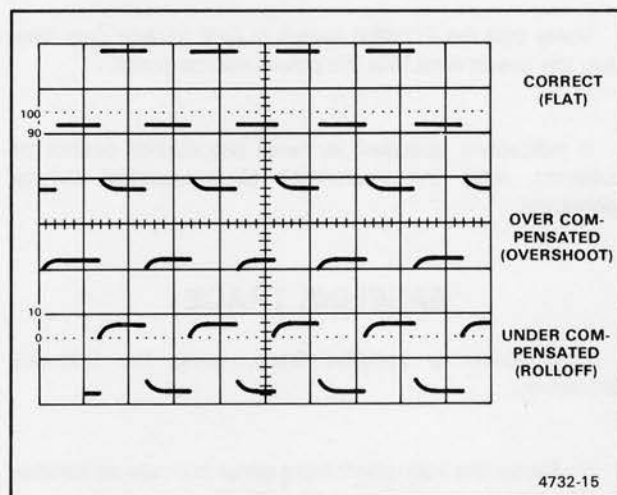

Figure 3-2. Probe compensation.
7. Check the waveform presentation for overshoot and rolloff (see Figure 3-2). If necessary, adjust the probe com-